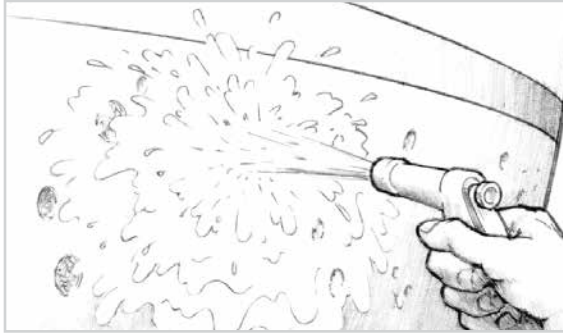

Figure 12-6 Scrub the surface with a stiff brush while flushing with fresh water to remove contaminants. Allow to dry completely
1. Pressure wash, or scrub the surface with an abrasive pad or stiff brush while flushing with fresh water to remove contaminants (Figure 12-6). The brief exposure to the fresh water won't drive up the moisture content of the laminate. Wipe dry with clean paper towels. Avoid washing with solvents, unless a particular contaminant is not water soluble. If you must use solvents, apply and dry with paper towels before the solvent evaporates. Do not use rags to apply or remove solvents.